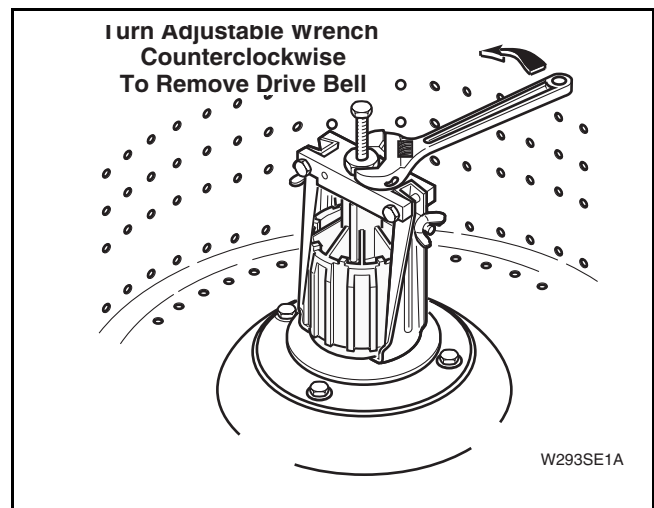

Figure 15
- Using an adjustable wrench, turn large nut on tool **counterclockwise** to pull drive bell from transmission output shaft. Refer to *Figure 15*.